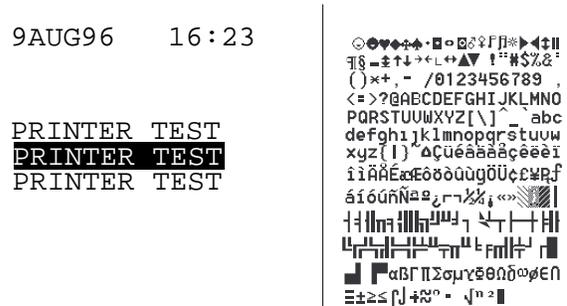

Figure 3-9: Text Test Printout
- Press softkey #3, "TEXT TEST". Verify that a list of ASCII characters prints as illustrated in Figure 3-9.